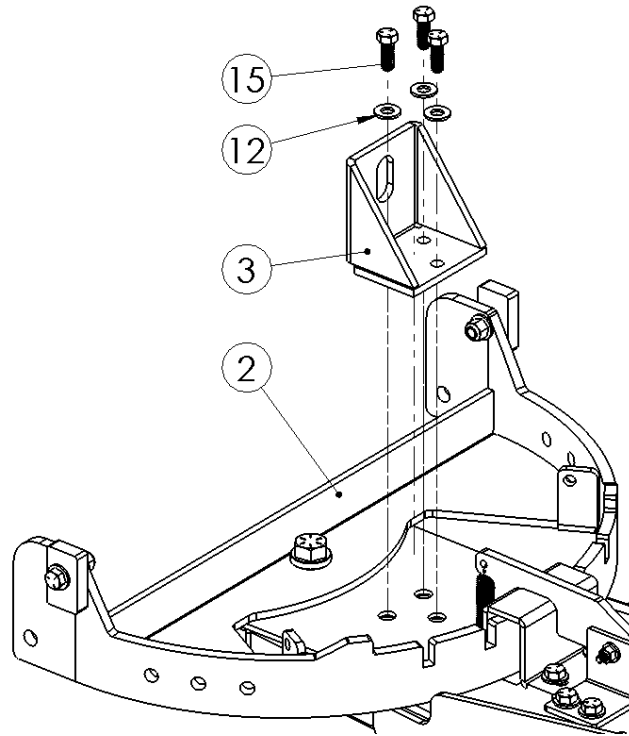

Figure 11
- 7) Install the Winch Attachment Bracket to the Lift Arm using the 3/8" x 1.00" Hex Bolts and 3/8" Flat Washers as shown Figure 11.